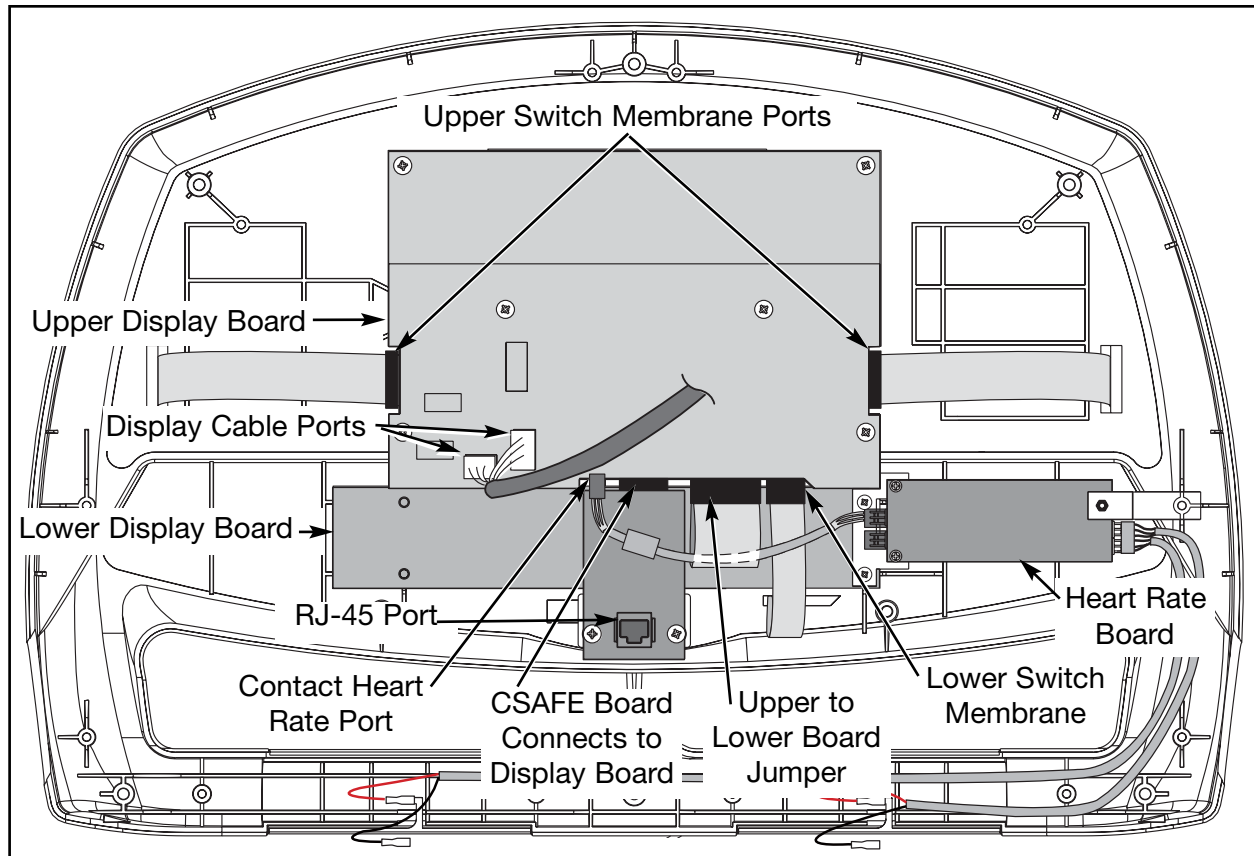

Figure 25 **NOTE:** This figure does not show handrails or lower console back.
- A. Disconnect these cables from the display board: the display cable (2 connectors); the two upper switch membrane connectors; the lower switch membrane connector; the contact heart rate cable and the upper to lower board jumper. See Figure 25.
- A.** Connect these cables into the display board: the display cable (2 connectors); the two upper switch membrane connectors; the lower switch membrane connector; the contact heart rate cable and the upper to lower board jumper. See Figure 25.
- B.** Gently pull the CSAFE board down to disconnect it from the display board. See Figure 25.